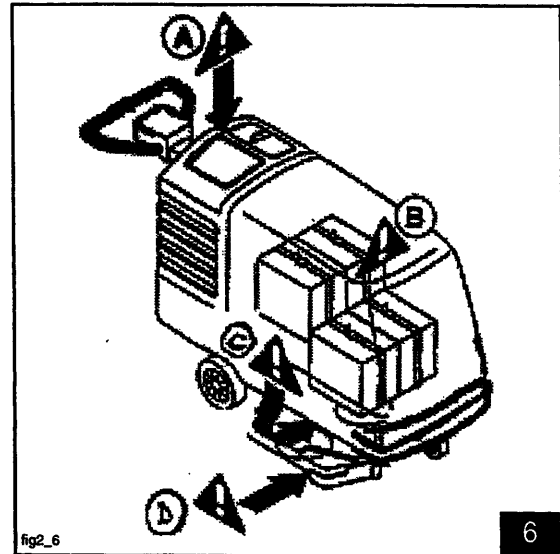

fig2_6
Operating cycle (fig. 2)
- Cut the strapping **A** (fig. 2).
- Remove the cardboard **B** (fig. 2).